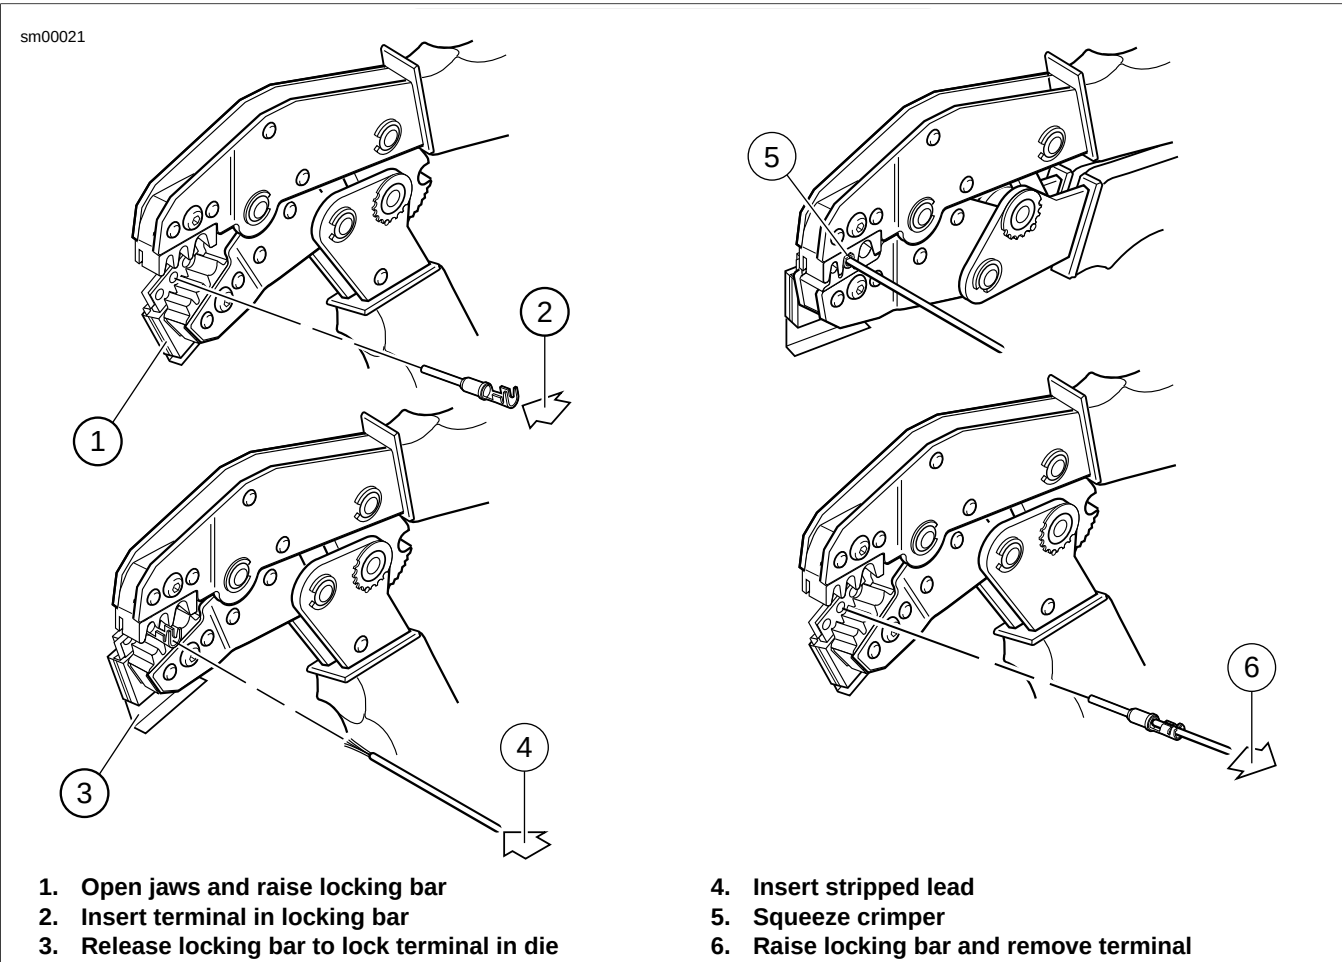

Figure A-32. Crimping a Deutsch DT Sealed Terminal
1. See Figure A-32. Squeeze the handles of the DEUTSCH TERMINAL CRIMP TOOL (Part No. HD-39965-A) to open the jaws. Push the locking bar (1) up.
2. Insert (2) terminal (socket/pin) through hole of the locking bar, so that the rounded side of the contact barrel rests in the nest (concave split level area) with the crimp tails facing upward. To match the wire gauge to the crimp tool die, refer to Table A-2.